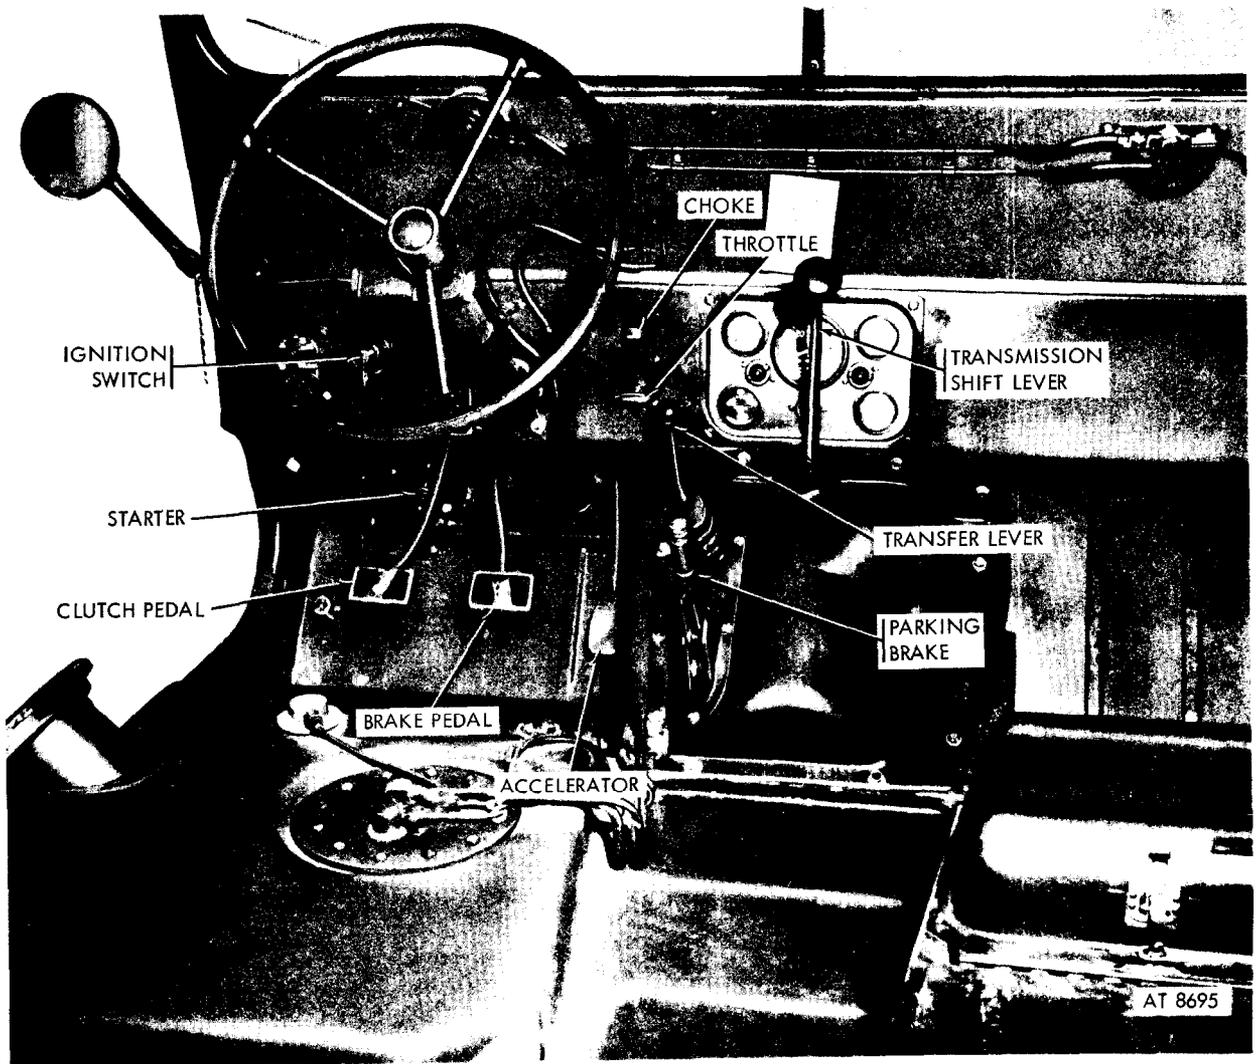

Figure 2-6. Starting and driving controls.
b. Apply (pull back) parking brake (figs 2-6, 2-1-(J)).
c. Place transmission (gear) shift lever in neutral (figs 2-6, 2-1 (H)).
e. Release parking brake lever (figs 2-6, 2-1-(J)) and move lever forward to release parking brake.